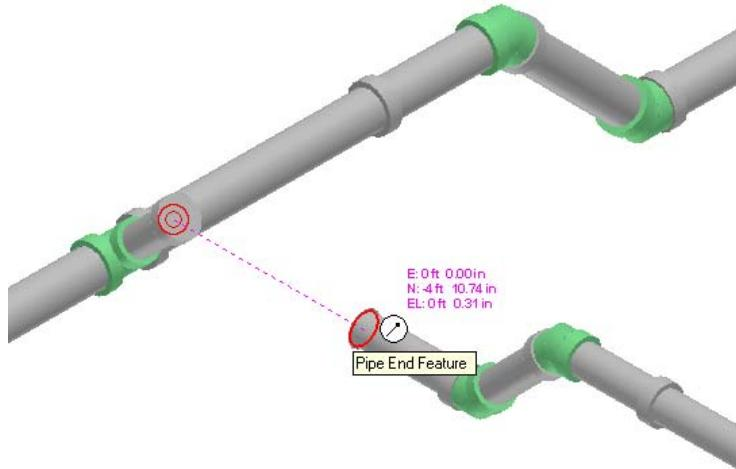

Figure 34: Pipe End Feature
62. Now, click the **Route Pipe** button on the vertical toolbar and position the cursor on the **End Feature** of the small sloped pipe to continue routing the lateral sewer line, as shown in Figure 34.